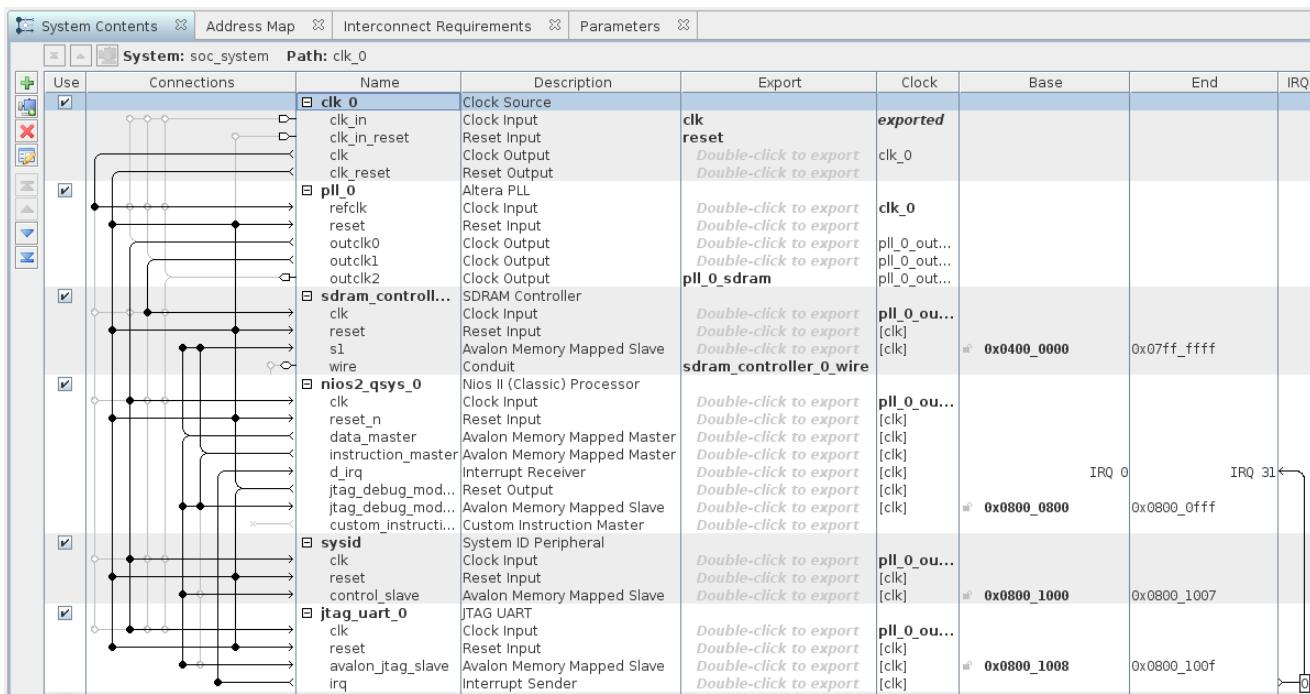

Figure 9-2. Basic Nios II System with SDRAM and JTAG UART
- Connect the system as shown in Figure 9-2 below: